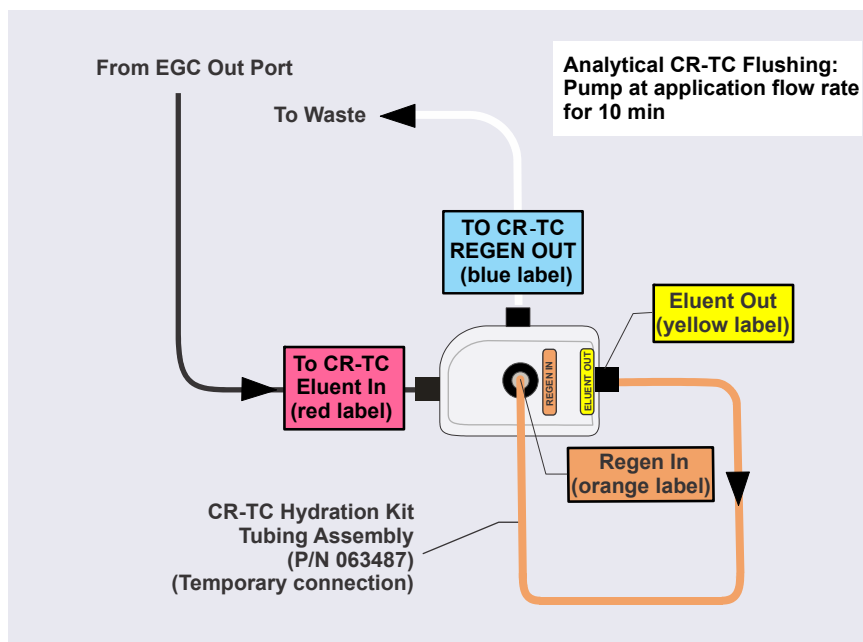

Figure 10-30. Plumbing for Hydrating an Analytical Dionex CR-TC 600
2. Refer to Figure 10-30 to plumb the four ports on the Dionex CR-TC 600.